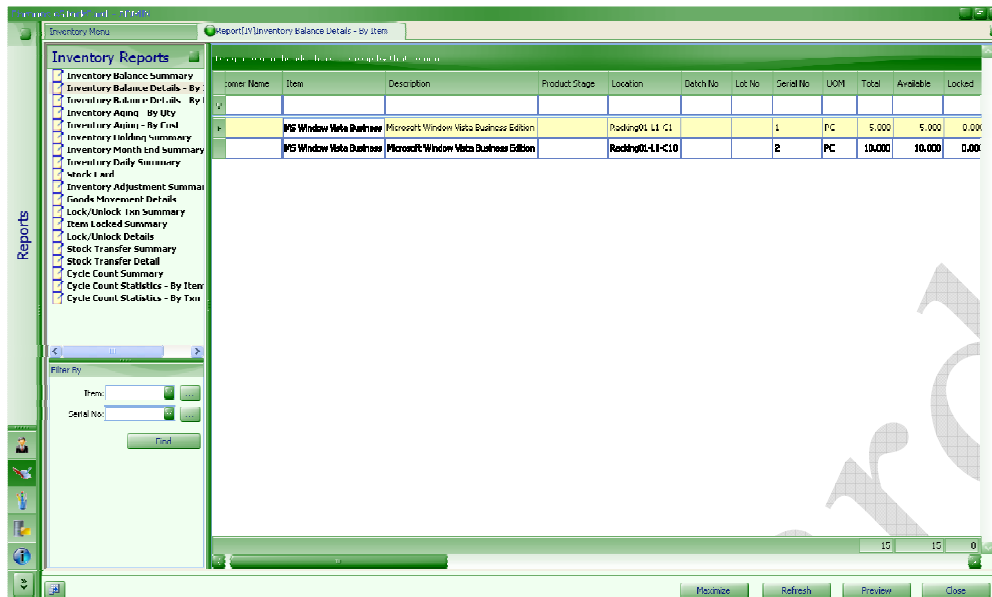

Fig. 46
Step 2 Under “Filter By” pull down, select “MS Windows Vista Business” from item code drop down and click “Find” (Fig. 46)